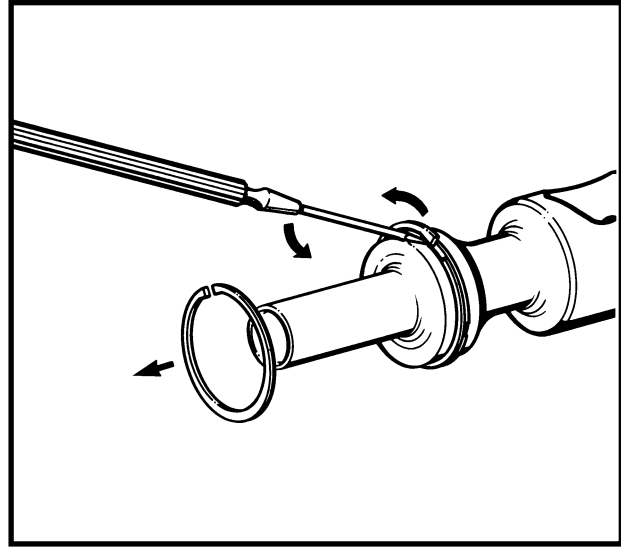

Figure 3-2-33 Removing the Bolt Rings
- c. The bolt rings are not removed except for replacement. Replace all three rings if damage or defects exist. In the event that replacement is required, the rings are removed with the tip of the jeweller's screwdriver. See Figure 3-2-33.